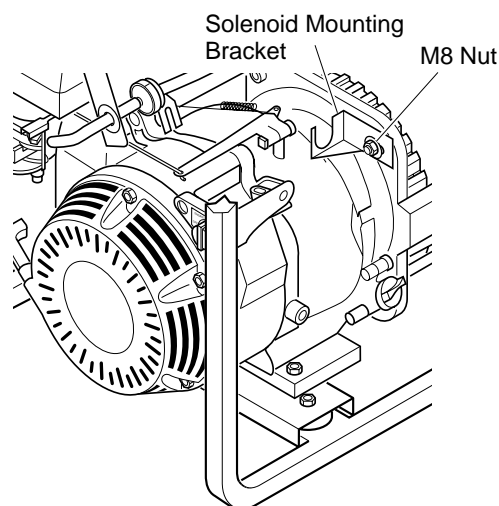
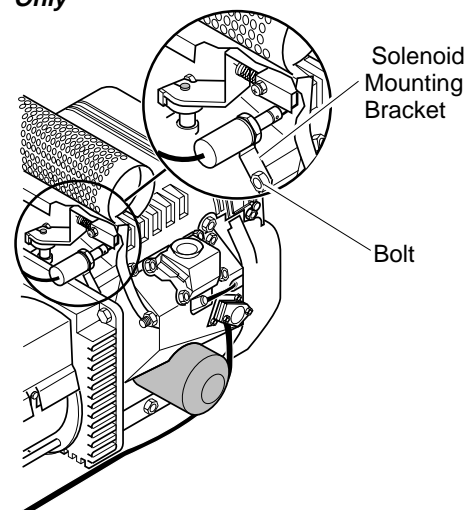

Figure 27 - Solenoid Bracket Location, Models RGH5500AIE and RGH7500AIE Only
Figure 28 - Solenoid Bracket Location, Model RGH11000AIE Only
4. Loosen the M8 nut that holds the solenoid mounting bracket to the generator (Models RGH5500AIE and RGH7500AIE, see Figure 27). Do not loosen bolt that holds the solenoid mounting bracket to the generator on Model RGH11000AIE (see Figure 28).
7. After reaching proper idle speed, tighten M8 nut to secure solenoid mounting bracket (Models RGH5500AIE and RGH7500AIE, see Figure 27).